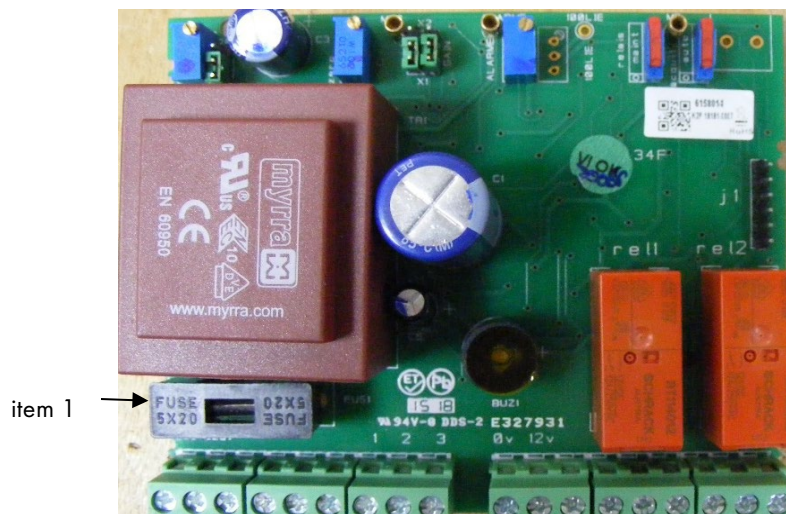

Figure 10
The fuse (Figure 10, item 1) must be replaced by qualified personnel only.